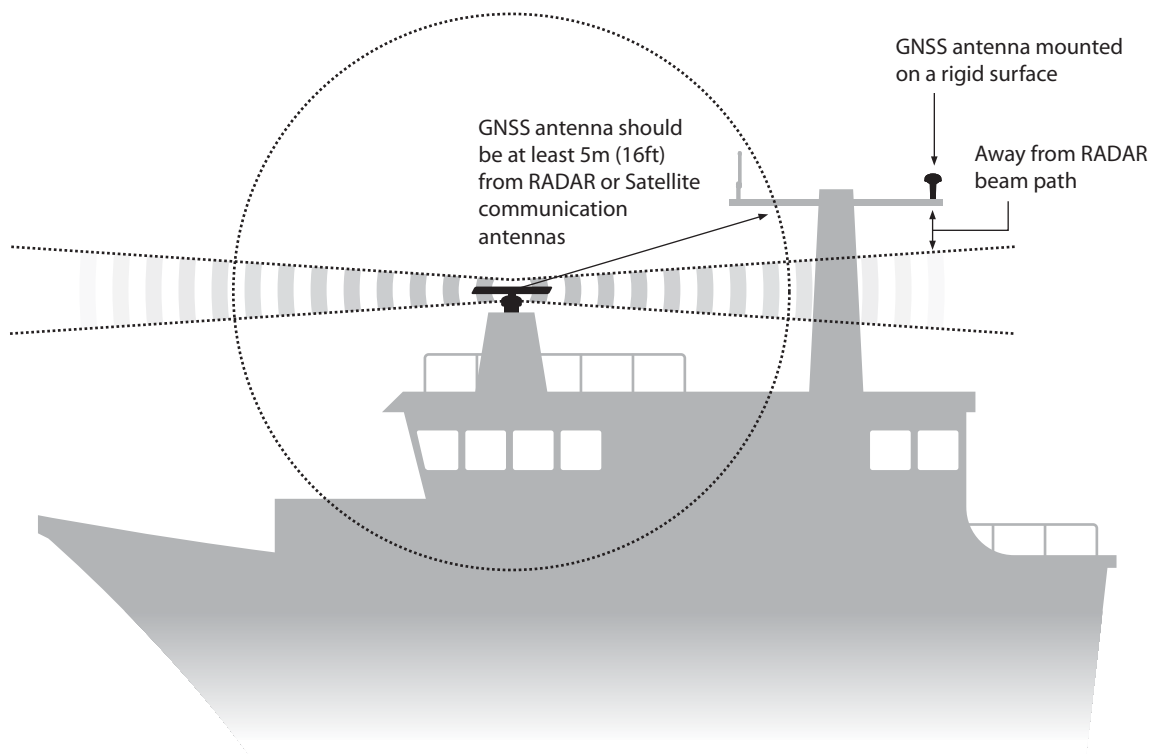

Figure 39 GNSS antenna location
- The GNSS antenna should be mounted as high as possible, however it is not recommend the antenna is mounted on a top of a high mast where the motion of the vessel will cause the antenna to swing and potentially reduce the accuracy of the GNSS position. See Figure 39 for guidance.